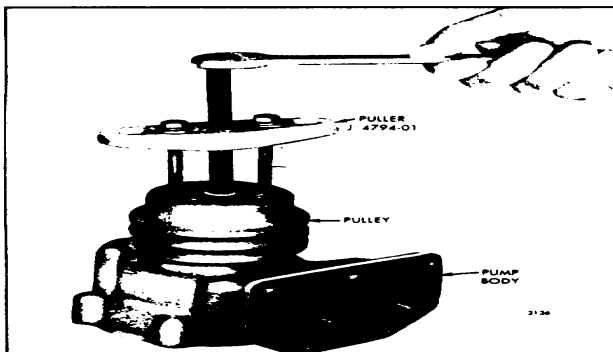

Fig. 3. - Removing Pulley
1. Note the position of the pulley on the shaft so that the pulley can be reinstalled in the same position when the pump is reassembled. Remove the water pump pulley as shown in Fig. 3.